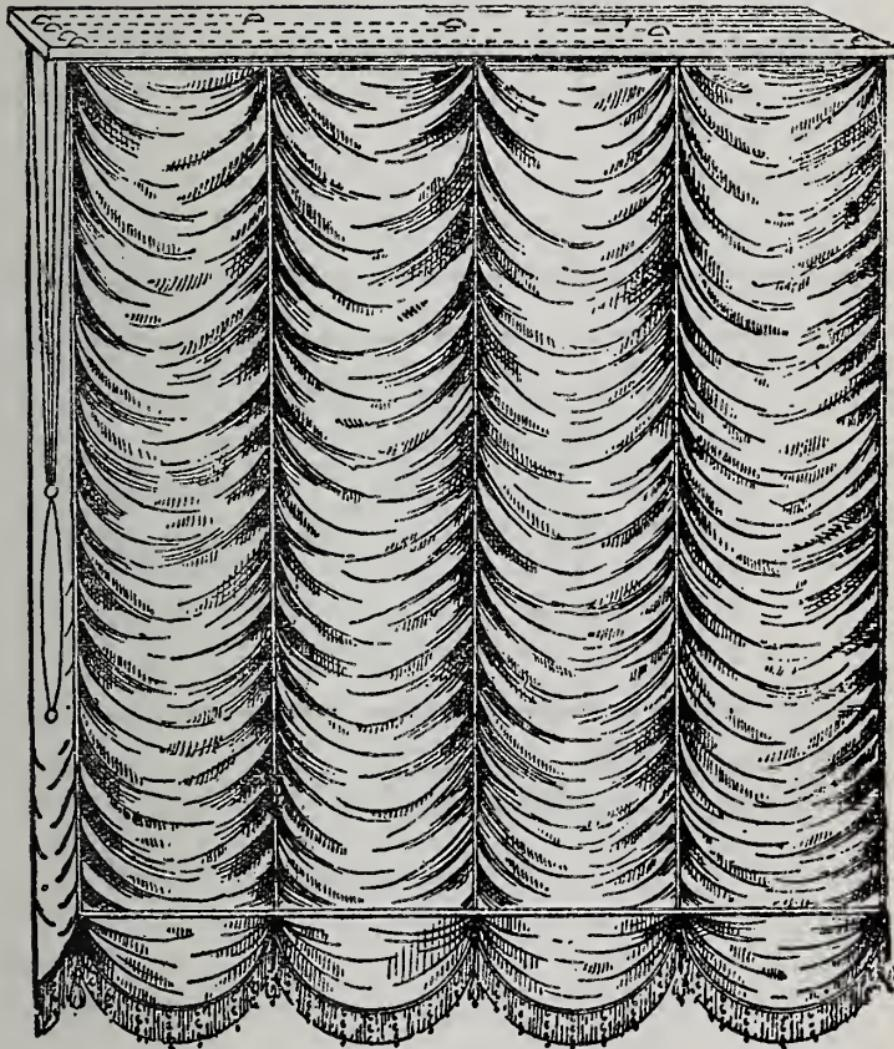

FIG. 46.
**Festoon Shades.**—A festoon shade, such as is shown in Fig. 46, should be fixed on a piece of wood 3 inches wide, on which the pulley-wheels work in a manner similar to those of a Venetian blind, but no check-action is required. Four festoons will be required to an ordinary window, of say 10 inches each, with a  $\frac{3}{8}$ -inch margin on the two outside edges. Cut the shade twice the depth to which it is to be finished. On the width allow 4 inches to each festoon; and on the side-margin sufficient to return to the cord-line, which will thus form a 3-inch hem on each side, finishing under the tape. When the hems are made, mark the festoons or tape-lines, and gather the shade up to the depth required, and on these lines sew narrow tapes of the same color as the shade; on the tapes sew small brass rings about 3 inches apart. To weight the shade, a piece of  $\frac{3}{8}$ -inch circular bar-iron is covered with the same material and sewn to each
tape at the bottom, just clear of the shaping. The draw-cords are tied to this rod, and run up through the rings to the pulleys, as shown in the illustration (Fig. 46). The material